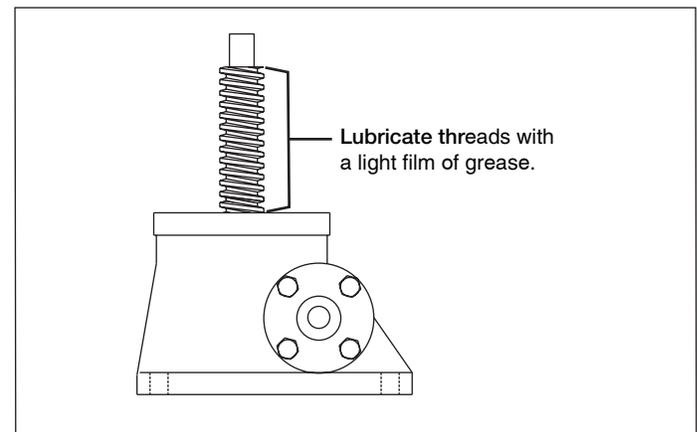

Figure 7, Load Screw Thread Lubrication (Typical Side View)
3. Using a clean rag or paintbrush, apply a light film of grease directly to the load screw threads. See figure 7.